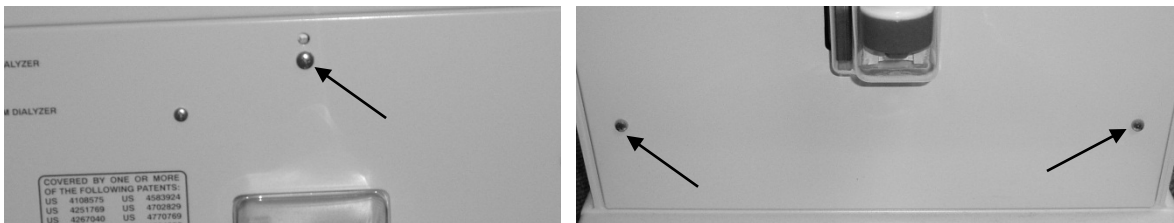

Figure 4 – Lower Rear Panel Screw Locations
11. Remove the lower rear panel covers. See Figure 4 for screw locations. Unplug the cover's ground wire.